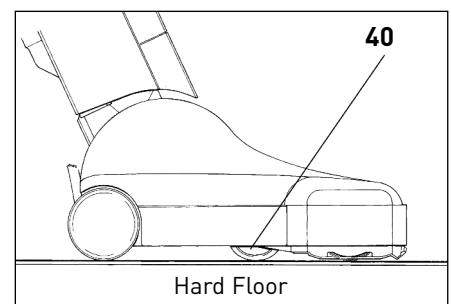

Figure 8
The Adjustment Wheel - Figures 8 & 9
On hard floors (figure 8), the adjustment wheel (40), moves upward into the machine so that the brush lowers and becomes flush with the floor.